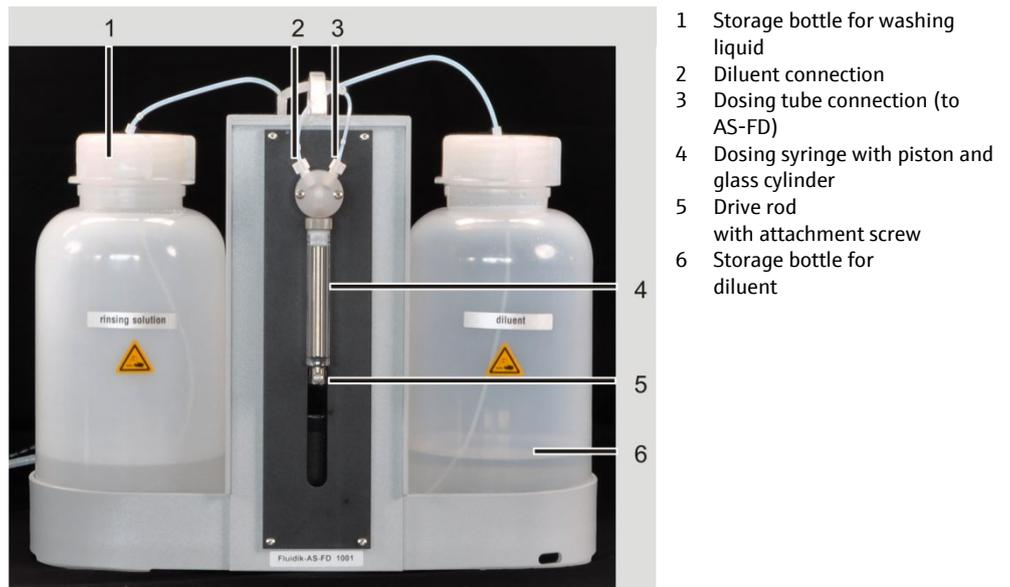

Fig. 45 Dosing unit at the Fluidik module of the AS-FD
3. Immerse the short tube (marking at the tube "3") into the storage bottle for the diluent. Screw the second tube end to the valve (2 in Fig. 45 p. 71).
4. Screw the dosing tube for the diluent (encased, marking "1") to the second connection of the valve (3 in Fig. 45).